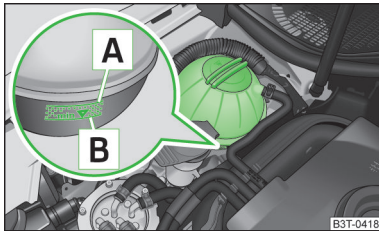

Fig. 137
When refilling, only use the same antifreeze identified on the coolant expansion vessel » Fig. 137 on page 151.
- Do not fill the coolant above the mark **A** » Fig. 137 on page 151.
The coolant expansion reservoir is located in the engine compartment » Fig. 137.
Explanation of graphic » Fig. 137
- Check the level of coolant at the coolant expansion vessel » Fig. 137.
If the engine is warm, the test result may be inaccurate. The level can also be above the mark **A** » Fig. 137.